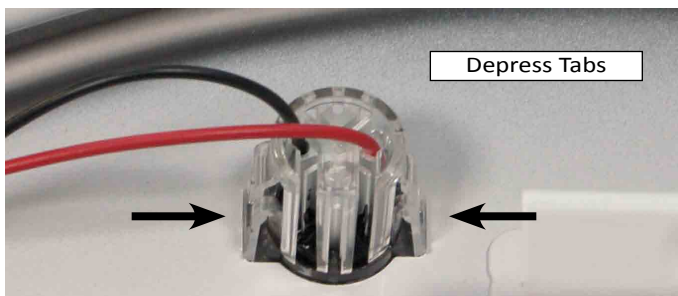

Figure 2
6. Depress the tabs on both sides of the drum light to release from bulkhead. Route the light and harness assembly through the hole (see Figure 2).